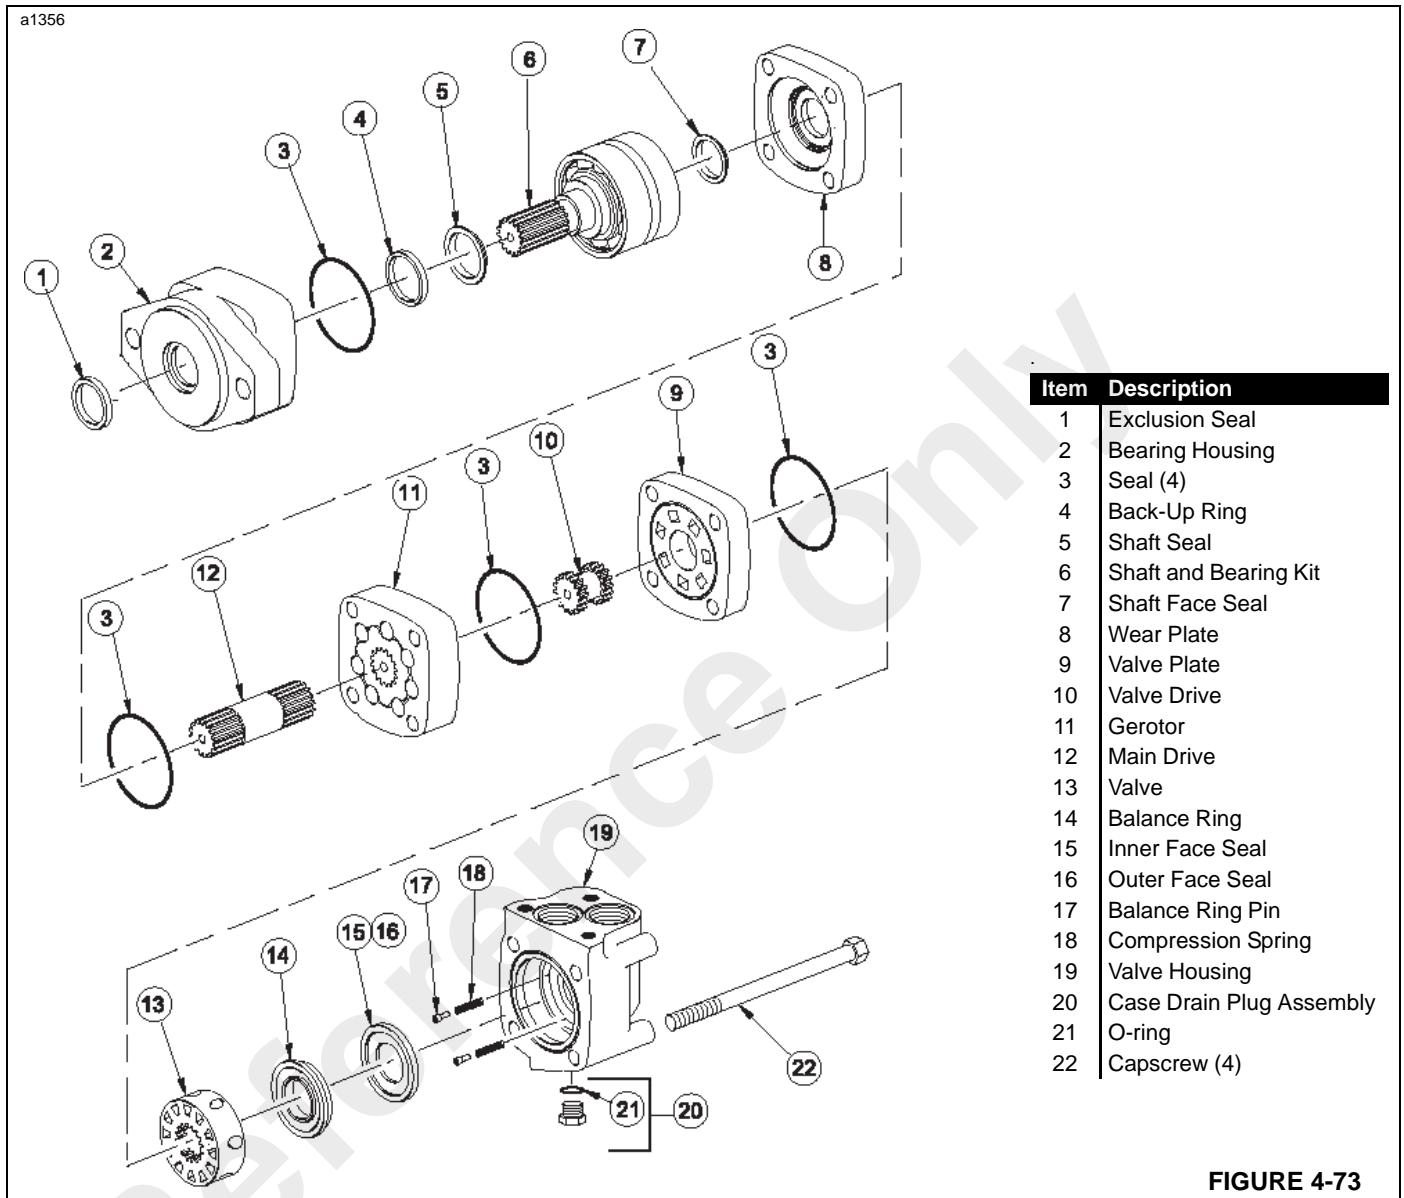

FIGURE 4-73
2. Remove four cap screws (22, Figure 4-73) from the motor.
3. Lift valve housing (19) straight up. If done carefully the pins (17), springs (18) and balance ring assembly (14) and valve (13) will remain in valve plate (9).
4. Carefully remove seal (3) from valve housing (19).
5. Remove case drain plug (20) with O-ring from the valve housing.
6. Remove two pins (17) and springs (18) from valve housing (19).
7. Remove balance ring assembly (14).
1. Use a press to install new exclusion seal (1, Figure 4-73) into outer bore of bearing housing (2). The lip of the seal must face outward. See Figure 4-74. If a press is not available, use a plastic or rubber hammer, being careful not to damage or cock the seal in the bore.
2. Place new backup ring (4) into seal bore of bearing housing (2). Use special tool to install new shaft seal (5). Place shaft seal (5) over the special tool and press seal into the seal bore of the bearing housing.
4. A special tool is available for this step. Bullet tool should be placed over the shaft of bearing and shaft assembly (6). If the tool is not obtainable, use tape over the shaft to inhibit cutting of the seals.